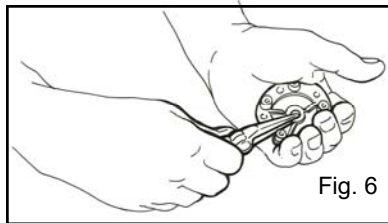

Fig. 6
- With a needle nose pliers, grip the center washer of the backing plate, as in Fig. 6. Using a twisting motion, break the washer out of the plate.